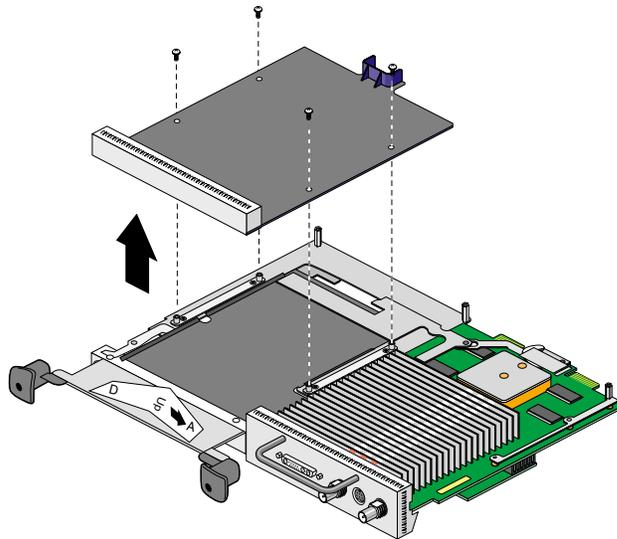

Figure 19 Removing the Blank Panel
2. Grasp the blank panel or option board on the front and on the side of the board that has no connectors, and lift it, as shown in Figure 19.